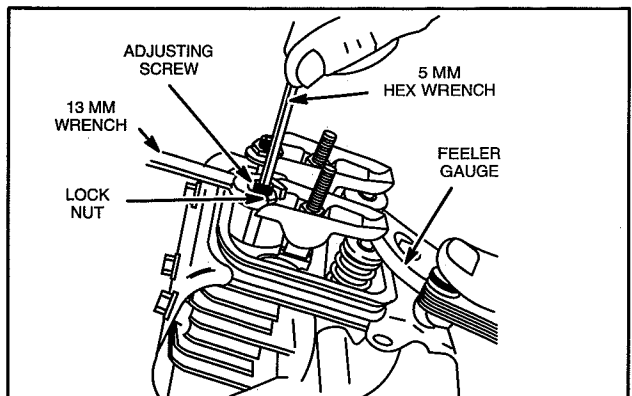

Fig. 17 – Adjust Valve Clearance
- a. Adjust valves and check, Fig. 17.